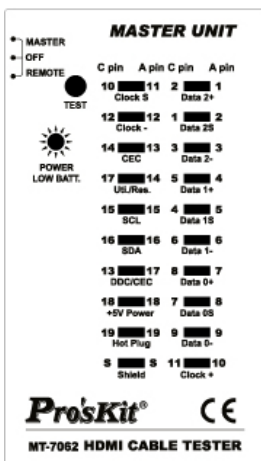

Fig 2. Straight
- **Straight** : With a long “beep” sound: Meaning 1~19pin and S pin all straight connected. **(Fig 2.)**